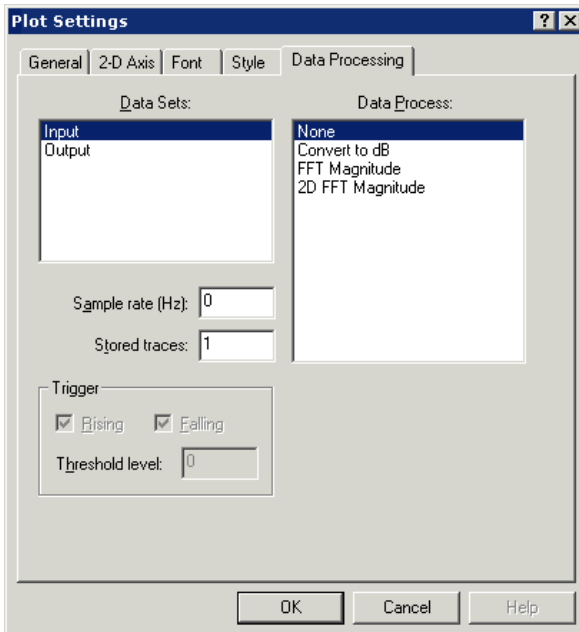

Figure 2-29. Data Processing Page
- a. Click the **Data Processing** tab to display the **Data Processing** page, shown in Figure 2-29.
6. Click the **Data Processing** tab to display the **Data Processing** page, shown in Figure 2-29 on page 2-41. Complete this page as follows.